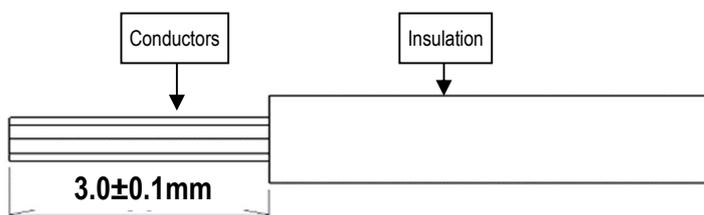

Fig 1.Wire strip
- ① Strip the insulation off by 3.0±0.1mm (see Fig.1)